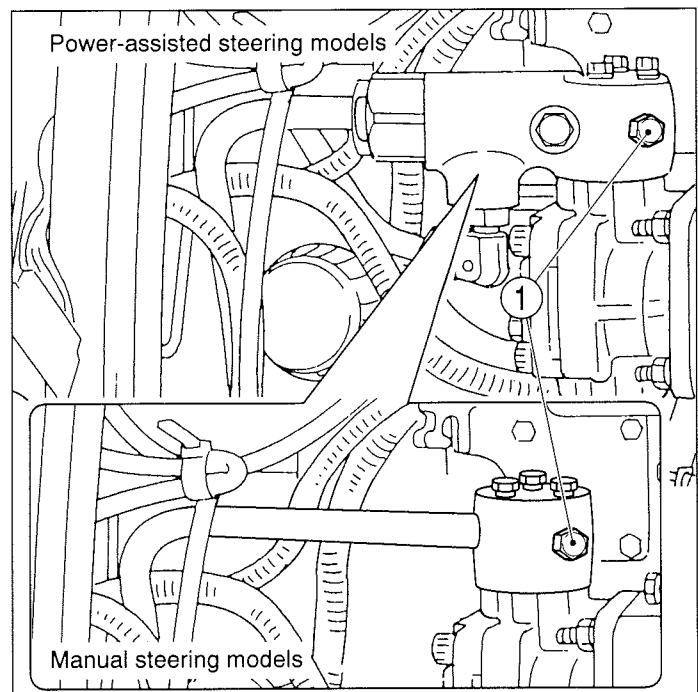

FIG. 78
Fig. 78: To bleed air from the hydraulic system—Loosen plug (1) by one turn or one turn and a half. NEVER remove the plug, or oil will be ejected through the plug hole during air-bleeding operation. Start the engine and operate it at full throttle.